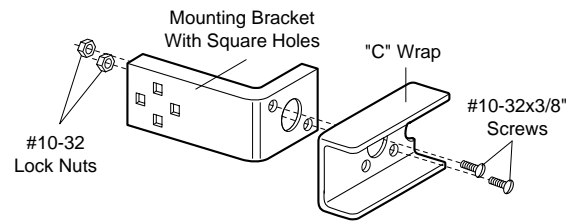

Figure 3
- Discard slotted bracket. Drill 3/8" holes in each track and fasten securely with hardware as shown in Figure 3.